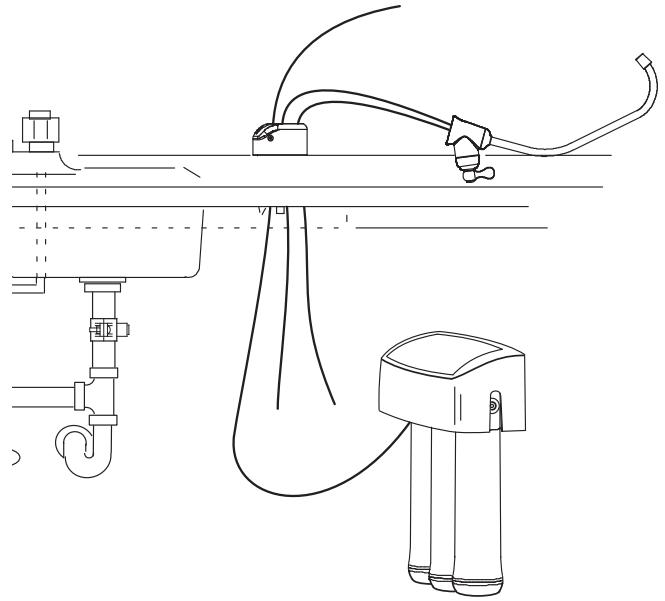

FIG. 14
4. Locate the faucet body. (The black and blue tubes are already connected to the faucet.) Insert these tubes into the sink hole until approximately one foot of tube length and the faucet body are left above the counter surface. Do not kink the tubes in the process. See Fig. 14.